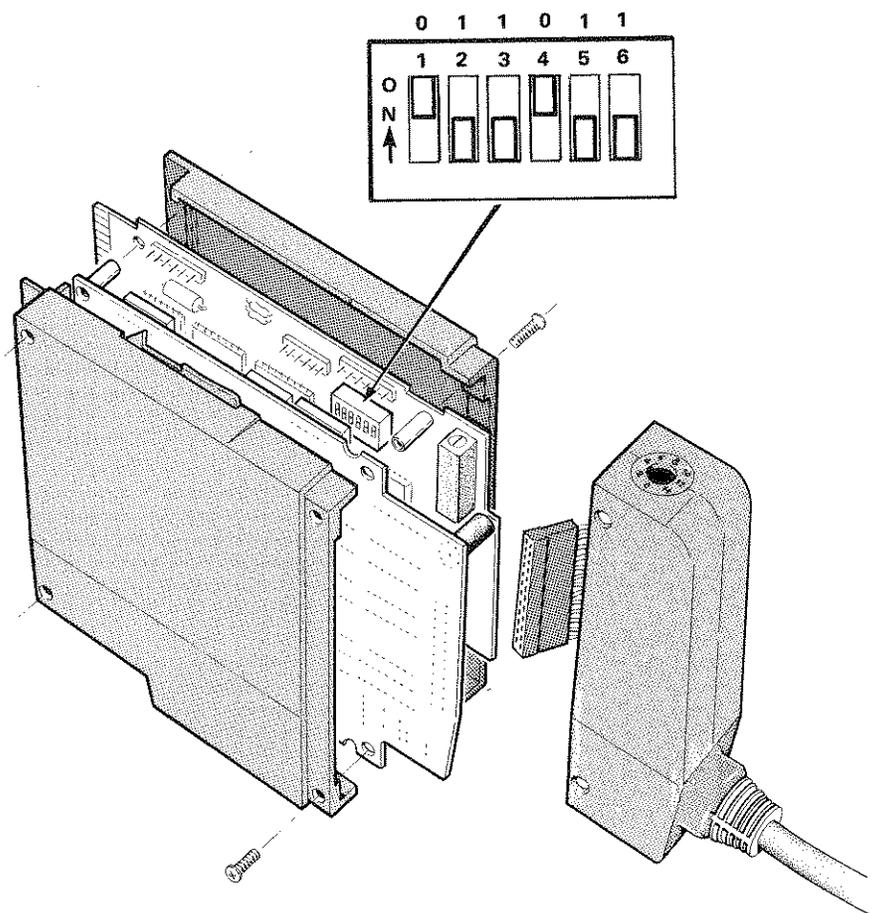

Figure 4-1 HP 98034A Interface Card
4-10 The interface address switch is situated internally and the interface covers should be removed, see Figure 4-1.
1. Remove the 8 screws as shown in Figure 4-1.
4. Set the switches as illustrated in Figure 4-1. Switches 1 to 5 select the address (octal 26, bit 5 is the most significant bit and setting each switch to the "ON" position corresponds to a "0"). Switch 6 the System Controller enable switch should be set to OFF because only one system controller is allowed in a system.